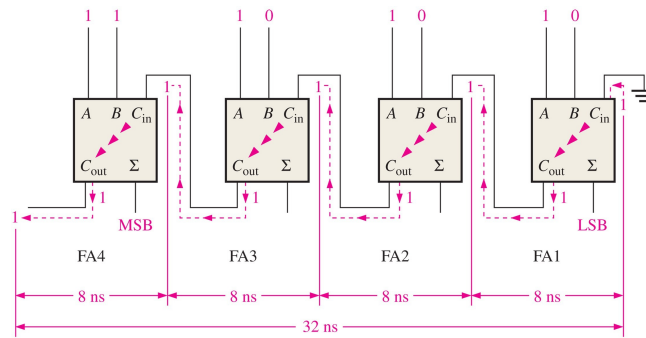

Figure 1: A schematic of a 4-bit adder with delays marked in nanoseconds.
1. Consider Fig. 1, in which a 4-bit adder is depicted. Assuming a uniform worst-case delay of 8 ns from carry-in to carry-out for each stage, the total delay is 32 ns. (a) At what maximum frequency can this circuit perform additions, if the delay must be less than a clock period? (b) What would the result in (a) be if the adder was extended to 8 bits? (c) Create a timing diagram showing the addition of the numbers in Fig. 1. **Bonus:** include the timing delays, and indicate the clock period.